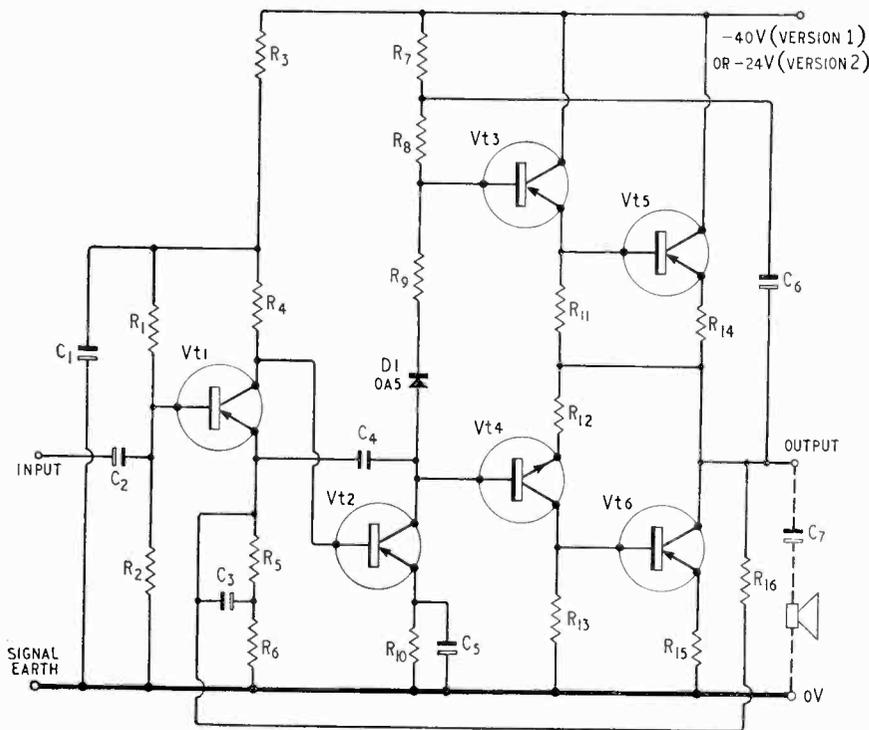

Fig. 4. Power amplifier circuit.
The voltage amplifier (see Fig. 4) consists of two directly-coupled grounded-emitter stages in cascade. Vt1 works with a low value of collector-
**Complete Amplifier (Fig. 4).**—The voltage and current amplifiers are d.c. coupled, and the complete amplifier has d.c. feedback around it via  $R_{16}$ , which stabilizes the working points of all the transistors. The quiescent current in the output stage  $Vt5, Vt6$ , is set by  $R_9$ , in series with the diode  $D1$ , about 10-20 mA being suitable. The d.c. working point of the output of the amplifier ( $Vt6$  collector) should be half the supply voltage with respect to earth, and should be set up if necessary by varying  $R_1$ .